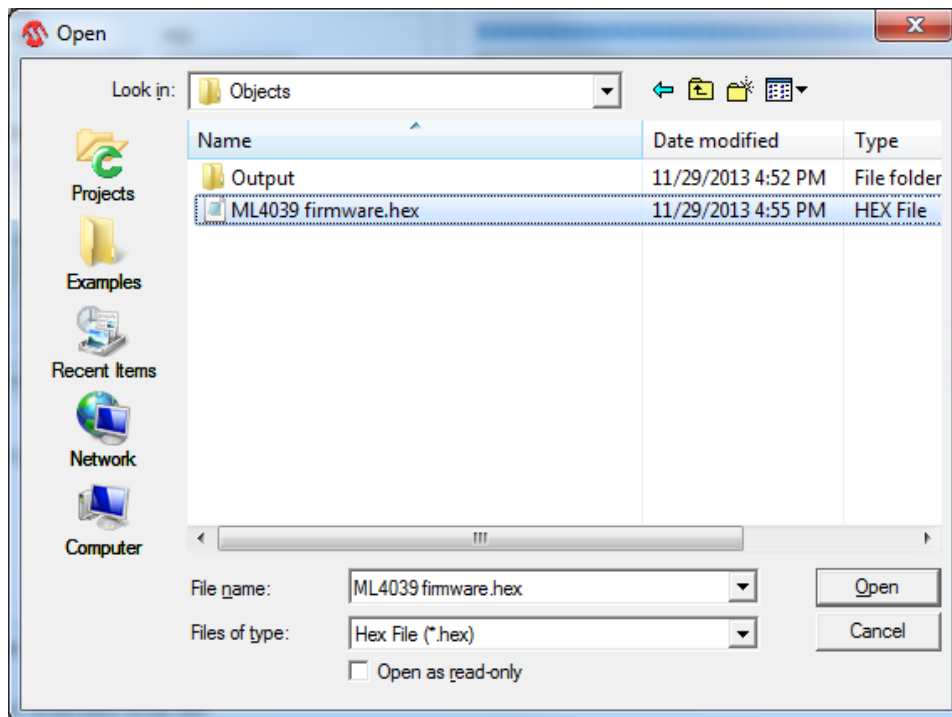

Figure 39: Select Hex File
5. Press “Load Hex File” then load the new ML4039 firmware and press “Open”(Figure 39). The path of the firmware file is C:/Program files/Multilane SAL/ML BERT/FWLoad.